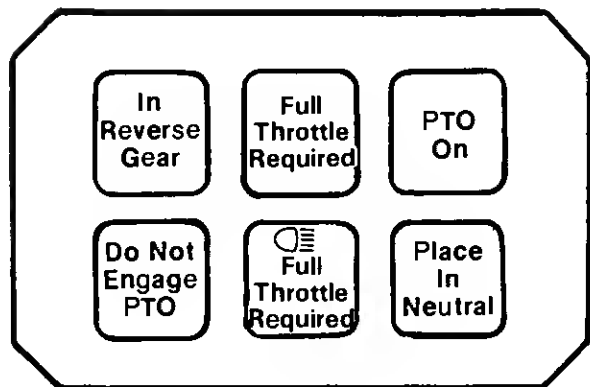

FIGURE 2.
B. ELECTRONIC MONITOR (See figure 2.)